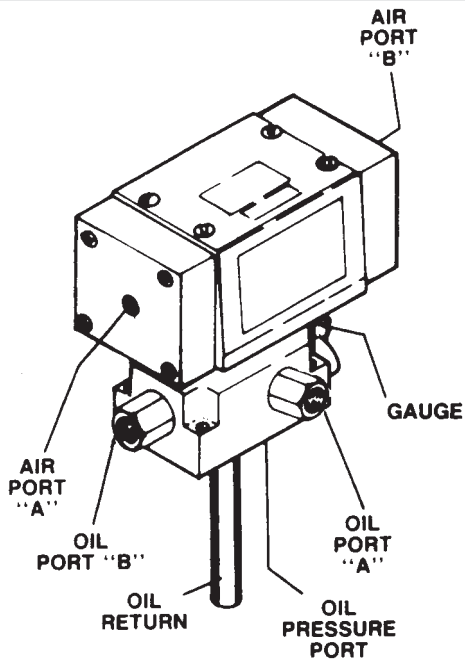

FIGURE 1
3. Attach all hoses (air and hydraulic) required to complete the set-up. Refer to Figure 1 for valve port information.